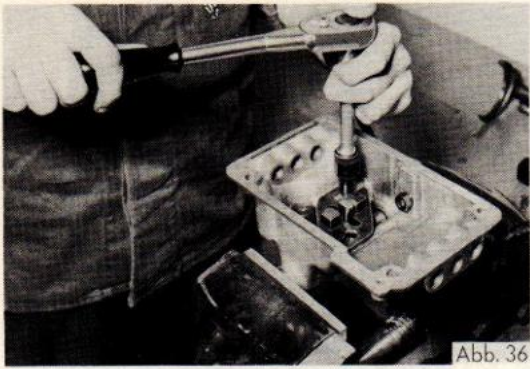

Abb. 36
25. Fit sliding lock plate over selector finger. Insert screws with distance pieces and spring washers into head and tighten down (Fig.36).